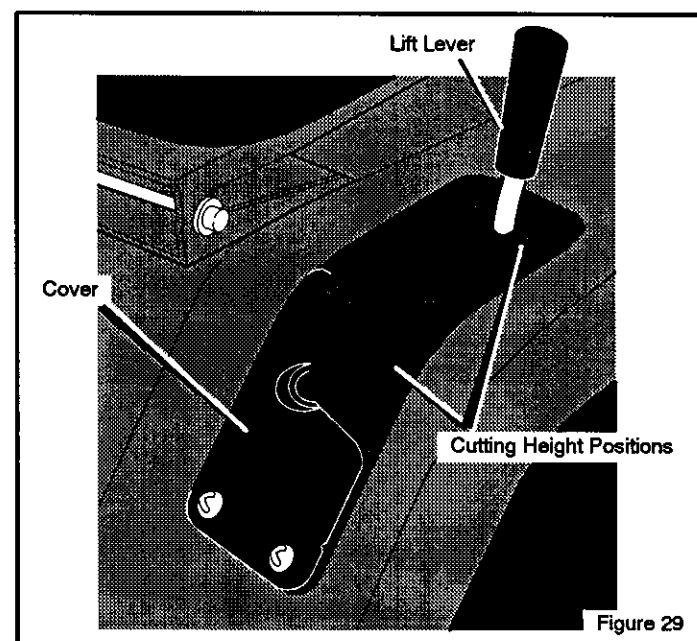

Figure 29
8. Raise the lift lever from the LEVEL ADJUSTMENT position to a CUTTING HEIGHT position (Figure 29).